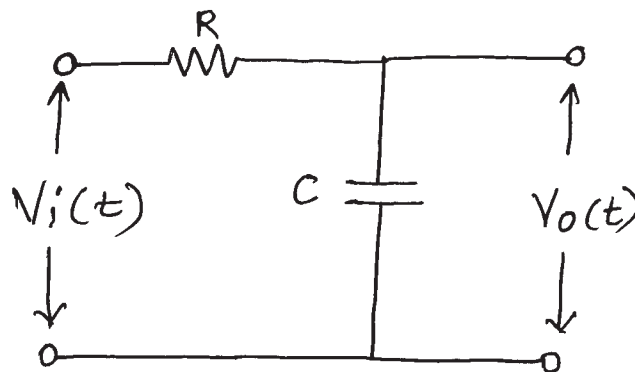

Fig. No. 1
- c) Derive the transfer function of the given electrical circuit below (Fig. No. 1):